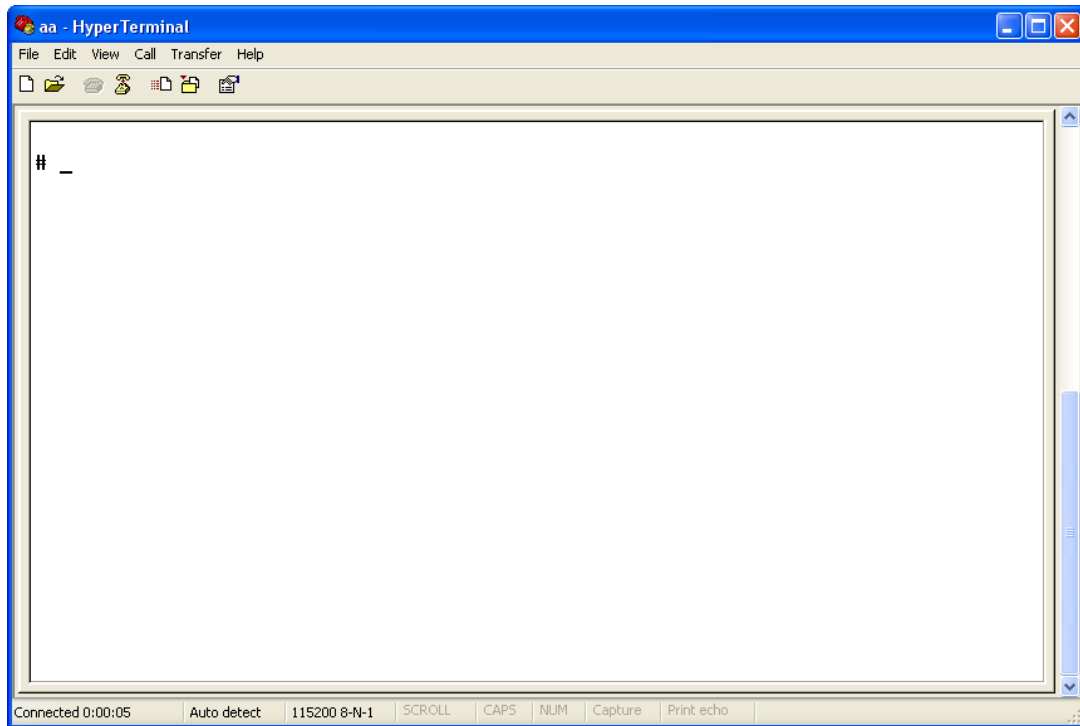

Fig. 3.4 Hyper Terminal Interface
Step 4: Serial port parameters setup. Set the serial port parameters as the following setup: Bits per second: 115200, Data bits: 8, Parity: None, Stop bits: 1, Flow control: None. Press “OK” after finish, the Hyper Terminal interface like Fig. 3.4 will appear
Step 1: Enter into the Hyper Terminal. Click “Start”→ “Programs”→ “Accessories”→ “Communications”→ “Hyper Terminal”→ “aa.ht”, the Hyper Terminal interface in Fig. 3.4 will appear.